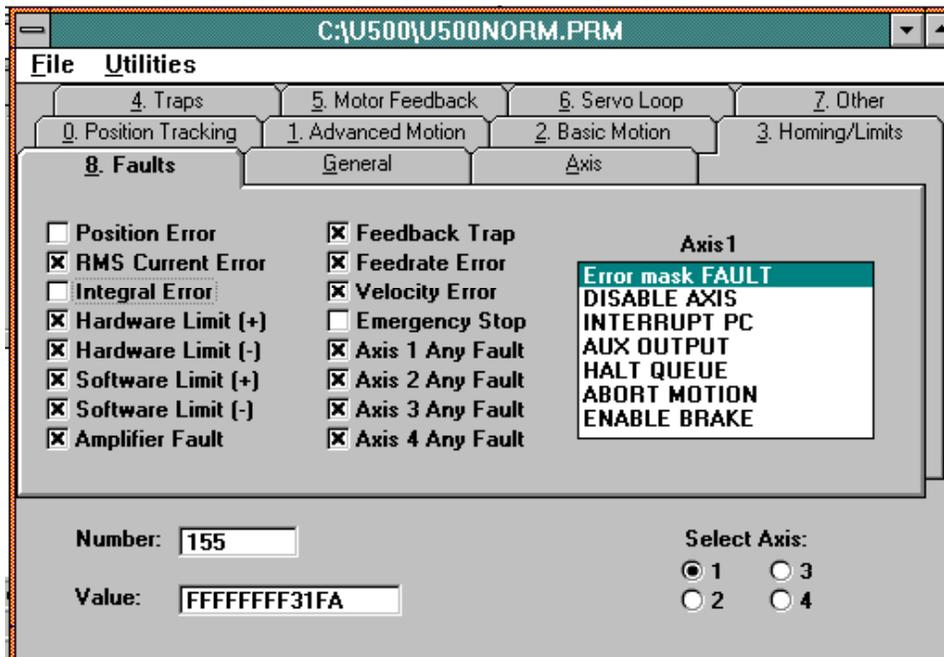

Figure 6-8. The Edit Parameters Window
1. Turn off the “Position Error” and “Integral Error” Traps. In the UNIDEX 500 software, open up the Parameters Window via the EDIT menu and de-select the Position Error and the Integral Error in the parameter called “Faults.” Refer to Figure 6-8.